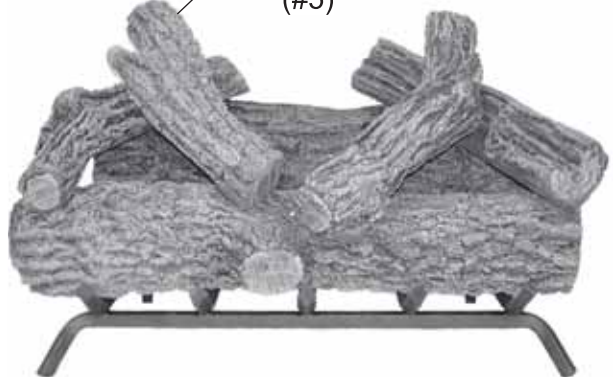

Figure 58 - Positioning Top Left Log (#5)
6. Rest Top Left Log #5 on Log #4 and Log #1. *See Figure 58.*